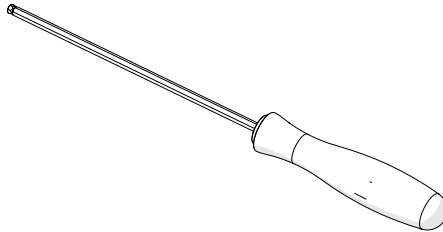
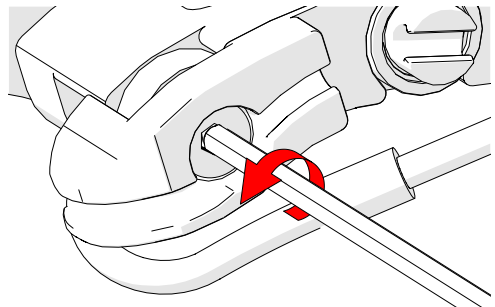

Fig. 25 - 2 mm hex driver
Fig. 45 - Remove screw
2. Use the supplied 2 mm hex driver (Fig. 25) to remove the screw from the wheel and encoder cable guard (Fig. 45).